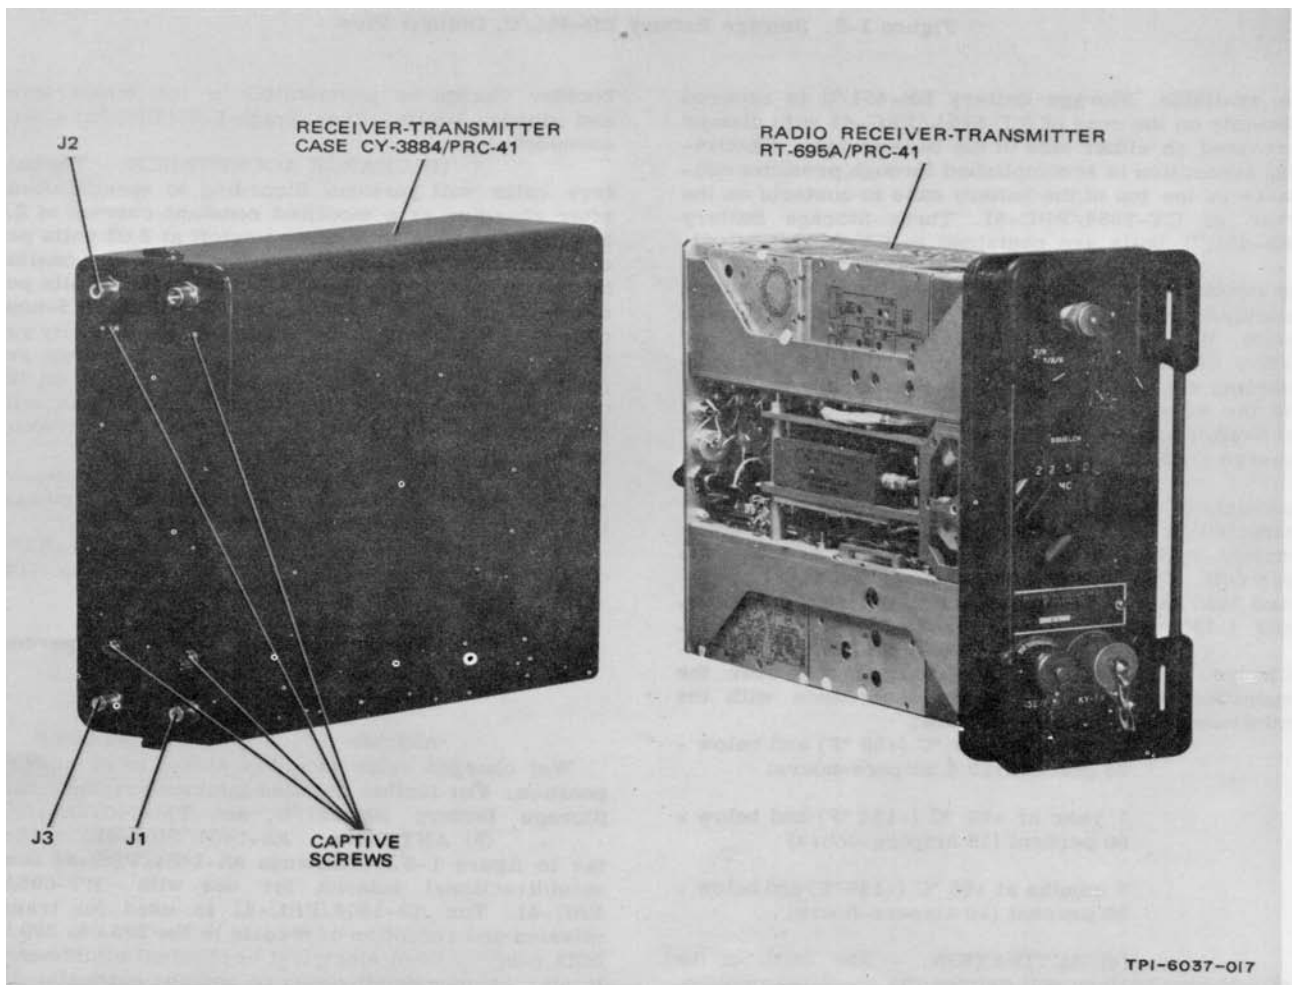

Figure 1-4. Radio Receiver-Transmitter RT-695A/PRC-41, Receiver-Transmitter Case CY-3884/PRC-41 Displaced
(2) RADIO RECEIVER-TRANSMITTER RT695A/PRC-41. Radio Receiver-Transmitter RT695A/PRC-41 consists of a main chassis with eight plug-in modules, a control panel, and a waterproof dust cover (Receiver-Transmitter Case CY-3884/ PRC-41). Refer to figure 1-4. The modules can be removed from the main chassis by loosening captive screws on each module. All electrical connections between the modules and the main chassis are made through multipin connectors on each module to jacks mounted on the main chassis. The coaxial cables and the connectors, that are integral with the multipin connectors except for the power amplifier output, conduct the rf signals between the plug-in modules. Mechanical coupling for tuning functions is achieved by a mechanical gear train and couplers mounted on the main chassis, and the couplers of the mechanically tuned modules. The main chassis gear train is driven by the frequency selector controls on the front panel. Pressure contacts located at the rear of the main chassis, provide the electrical connections to the CY-3884/PRC-41 for supplying the primary 26.5-volt dc supply from either Storage Battery BB-451/U or Power Supply PP-3700/PRC-41. A coaxial connector, located on the front panel mates with Antenna AS-
(3) RECEIVER-TRANSMITTER CASE CY-3884/PRC-41. Receiver-Transmitter Case CY-3884/PRC-41 is a dust cover for Radio Receiver-Transmitter RT-695A/PRC-41. Refer to figure 1-4. The CY-3884/PRC-41 is secured to the RT-695A/PRC-41 by four captive screws which are located at the rear of the CY-3884/PRC-41. With the CY-3884/PRC-41 in place on the RT-695A/PRC-41, primary power is applied through pressure contacts located at the rear corners to the contacts centrally located on the inside rear of the CY-3884/PRC-41. The power is then available to the pressure contacts at the rear of the main chassis and then to the power distribution circuits of the RT-695A/PRC-41.